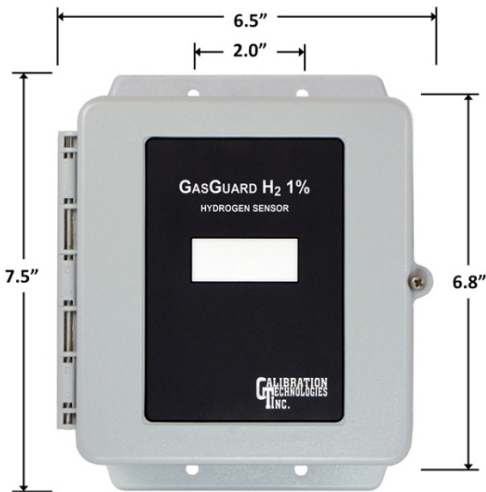

Figure 1: Mounting Dimensions
- Mount sensor enclosures through the mounting holes as shown in **Figure 1**. Use the supplied self-tapping screws for mounting on sheet metal surfaces.